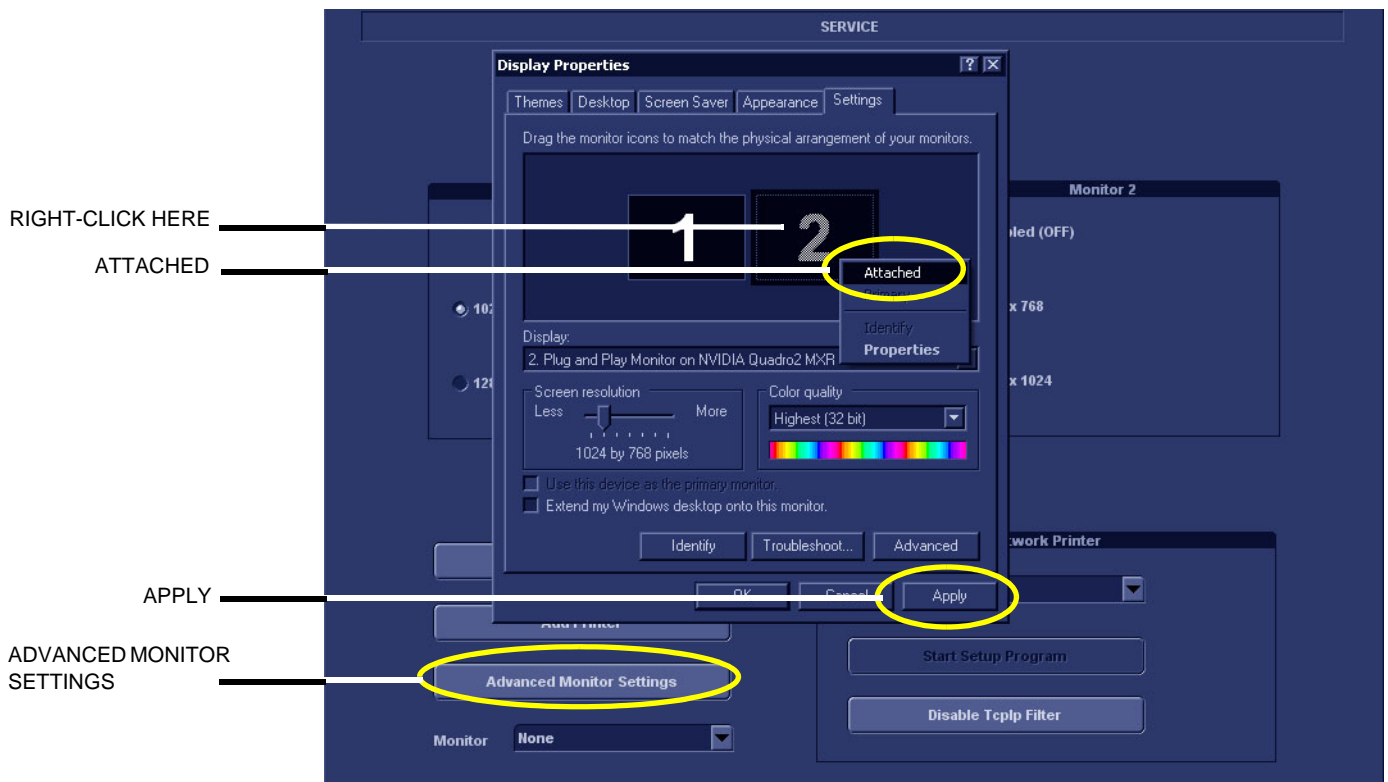
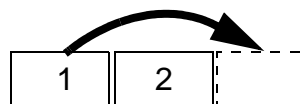

Figure 3-47 Display Properties
Figure 3-48 Interchange monitor content
- 6.) If you want to interchange the content on the two monitors, this can be done by clicking the screen with one number (ref: Figure 3-47 and Figure 3-48) and drag it to the opposite side of the other number and then click **Apply** and restart the EchoPAC Application (**Ctrl+Alt+R**).